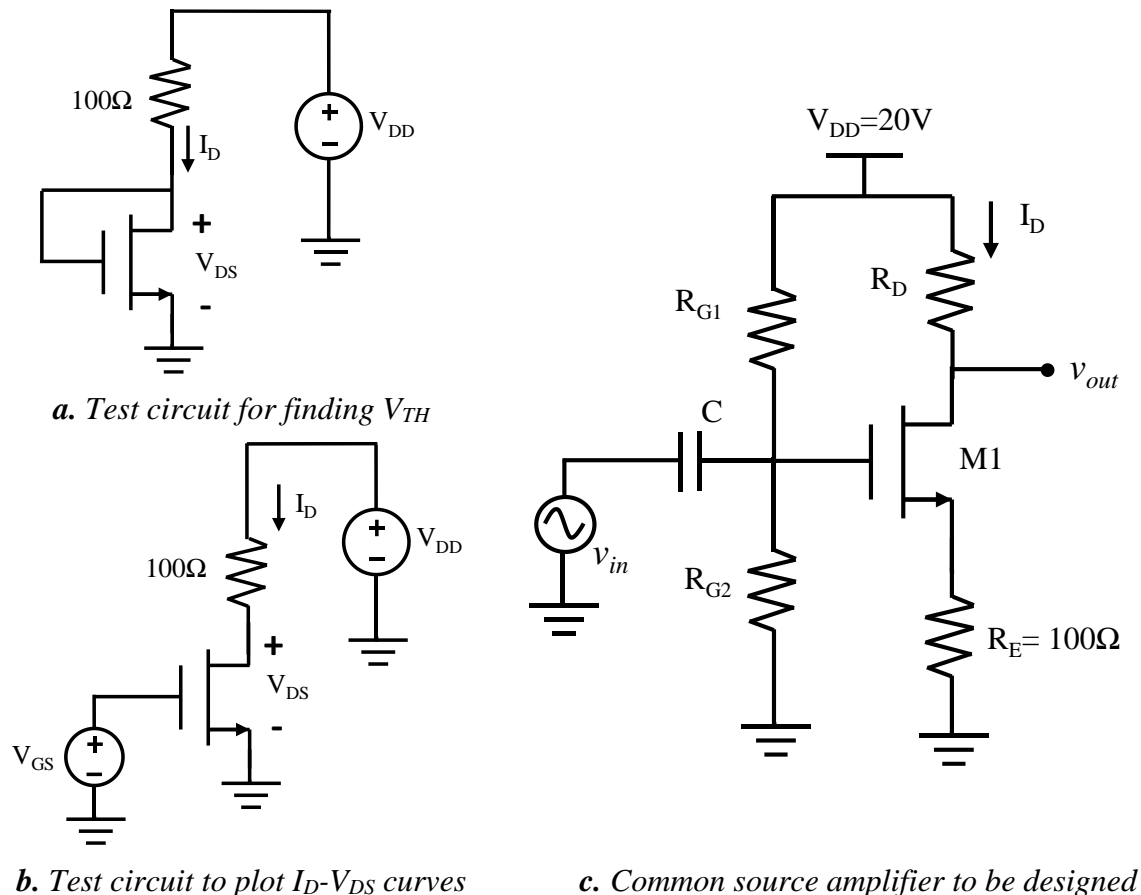

Figure 1: Test circuits and the common source amplifier
We have limited number of 2N7000s, if the nMOS is damaged during testing you may not be able to get a new one. For that reason please be careful not pass too much current through the transistor during testing. Immediately stop your testing whenever you observe a drain current (I_D) larger than 50mA during testing. Although it will make your characterization one step longer 100Ω current protection resistor has been added to test circuits in Fig1.a&b. Do not skip these resistors and use them during your characterization.
The specifications for the circuit in Fig1.c are
1. Set up the circuit in Fig.1.a to find the threshold voltage (V_{TH}) of the transistor, do not skip the 100Ω resistor. Slowly increase V_{DD} while recording I_D till $I_D=30mA$. Plot I_D vs V_{DS} and determine V_{TH} . You can assume transistor is ON when $I_D=1mA$. Note that $V_{DS}=V_{DD}-I_D \cdot R$.
2. Setup the circuit in Fig1.b to obtain the I_D - V_{DS} curve of the transistor. For each
3. Design the common source amplifier shown in Fig1.c to meet the given specifications. You should determine the value of all the unknown resistors and the capacitor. Calculate g_m and r_o based on your findings from part 2. Show v_{in} and v_{out} on the same scope screen to demonstrate the gain. Increase v_{in} up to the point where you observe distortion on v_{out} and show these plots in your report. What determines the maximum input voltage?